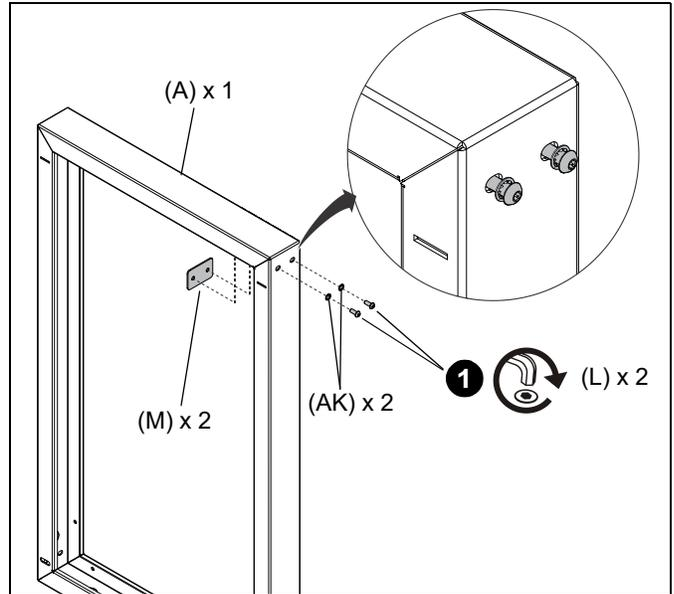

Figure 6
- Install two M8 x 20mm security screws (L), two 8mm lock washers (AK), and one large washer plate (M) into the holes in the top of the side of the frame (A). Leave hardware slightly loose if installing two or three frames. (See Figure 6)